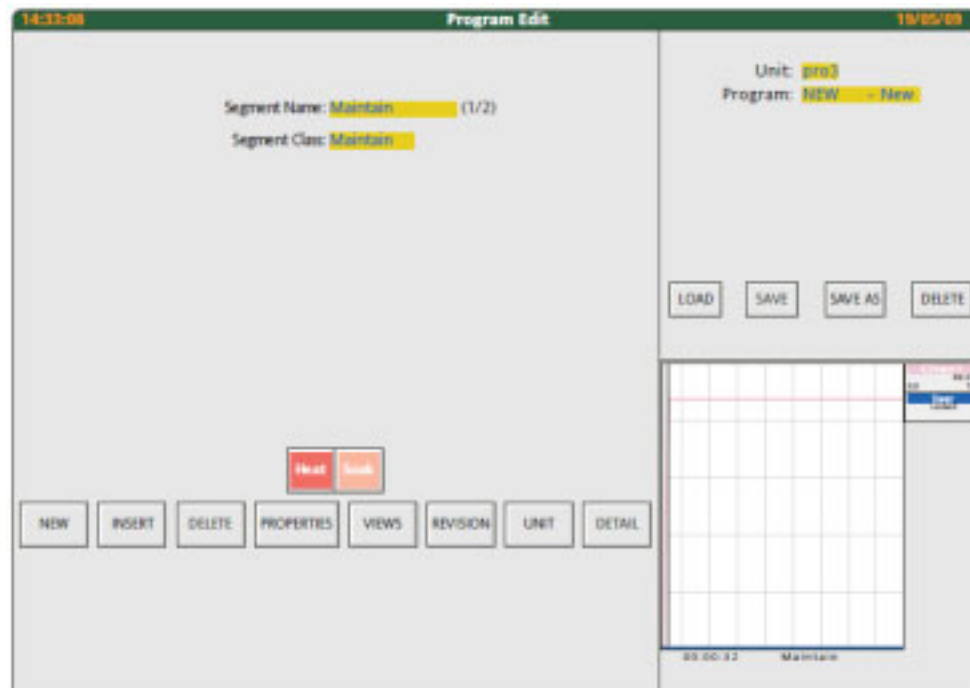

Figure 105 Adding a Second Segment
5. Operate 'Insert' again. The 'Insert Segment' pop-up appears again, with the default next segment (Maintain) (Figure 105).